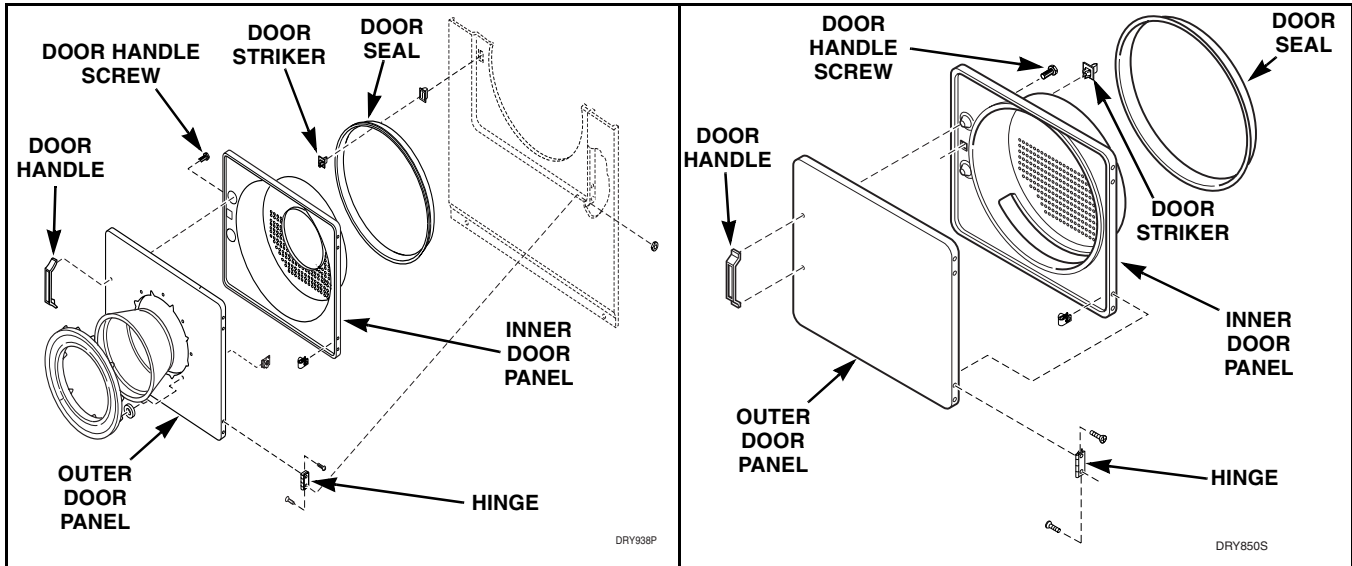

Figure 13
Refer to *Figure 13*
- b. Remove screws holding handle to door and separate panels. Refer to *Figure 13*.